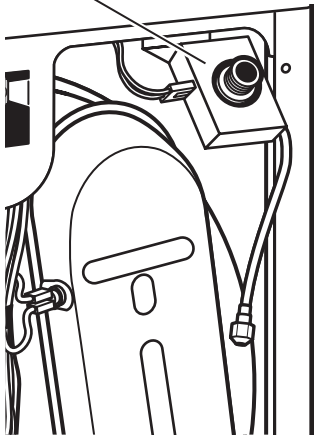

Figure 11 - Water System Components.
Activate Service Test Mode (see page 12). Advance to Step 3 in Service Test Mode Chart (see page 13). Verify that water is being sprayed into the drum. See figure 11.
- Check that the hose and wires are connected to the water valve assembly (see figure 11).
- Check that hose and wires are connected to the water valve assembly (see figure 11).